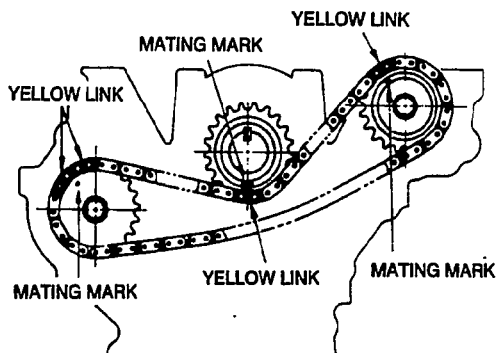

FIGURE 9-39. PROPER SPROCKET AND CHAIN ALIGNMENT
4. Align the mating marks (yellow links) of the chain with the mating marks (notches) in the crankshaft and balancer shaft sprockets (Figure 9-39).